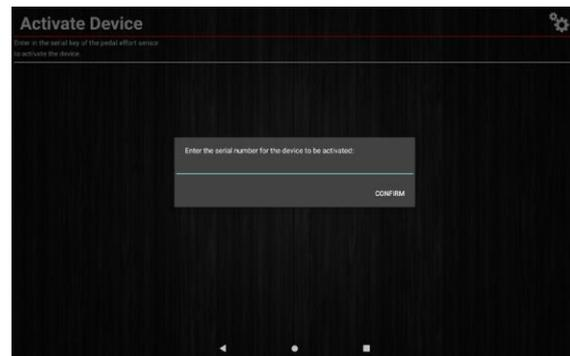

Figure 63
5. Enter the Serial Number of the device to be activated (Figure 63).